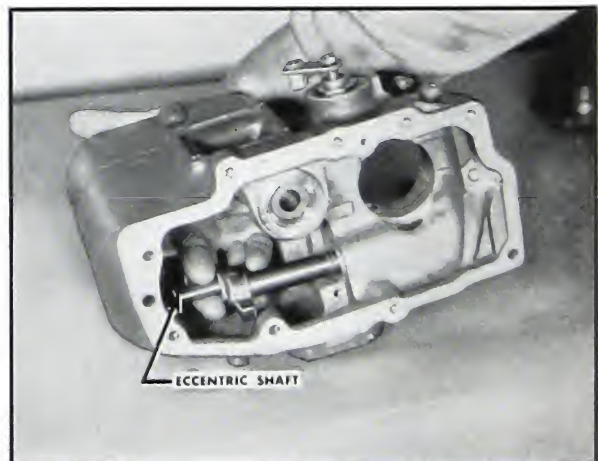

Fig. 5-233. Assembling eccentric shaft
2. Loosen the $\frac{1}{4}$ " socket head clamping screw, and remove the hand throttle control lever. Fig. 5-233.
5. Check the eccentric pin. Fig. 5-233. If eccentric pin is brinelled or worn beyond .374, the eccentric shaft assembly must be replaced. On pumps after Serial No. 22199 the pin can be replaced as a single part. These pins are held in place with an "E" ring. The pin is properly positioned when it protrudes from the shaft 1.077/1.082 inch.
6. Assemble a new rubber "O" seal ring to eccentric shaft and insert shaft in upper housing. Fig. 5-233.